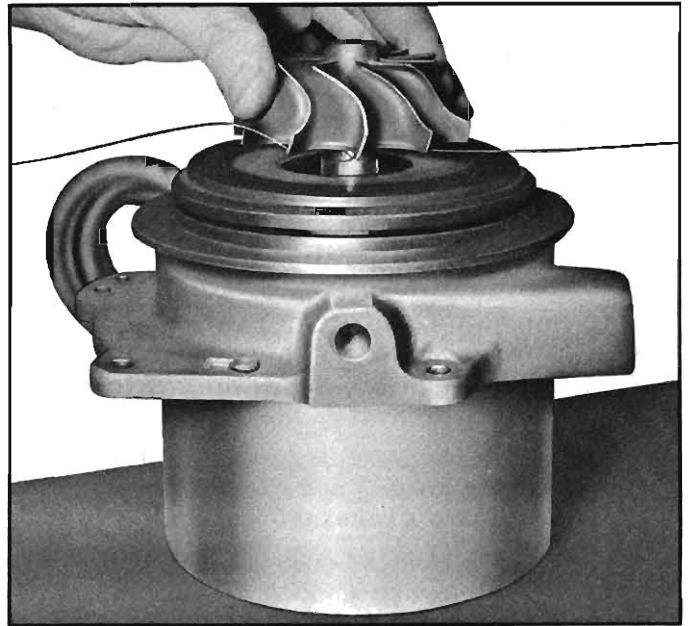

Fig. 9-54—Installation of Turbine Wheel and Shaft
12. Lubricate the shaft (bearing area) and carefully install through the bearing (fig. 9-54). The plastic ring is left on the shaft after installation since it will burn away. If wire is used, remove the wire by a reverse twist and slide it out from between shield and wheel.